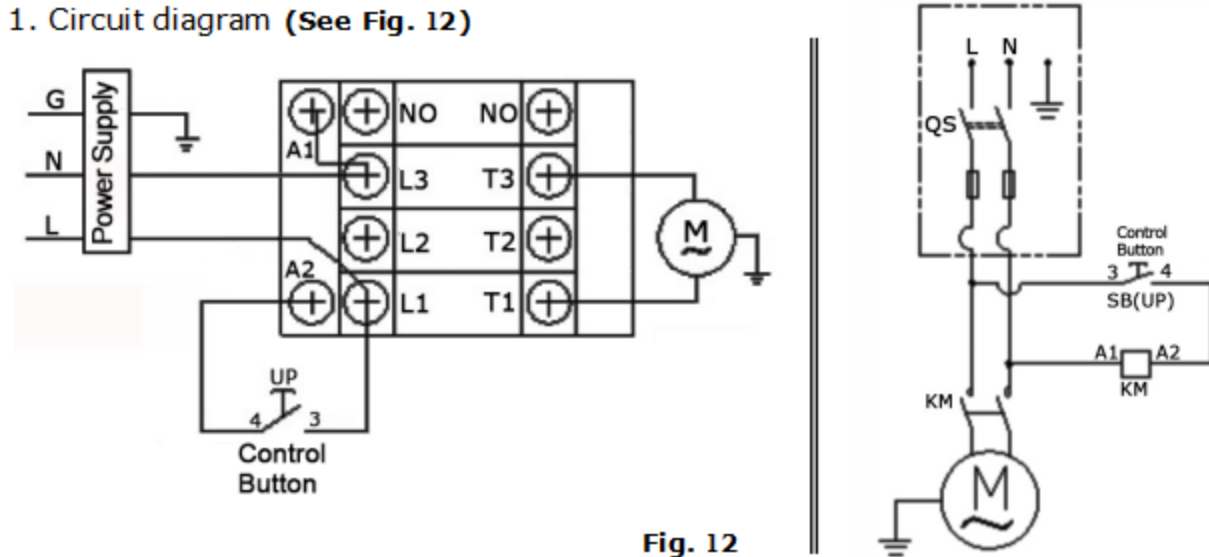

Fig. 12
1. Circuit diagram (See Fig. 12)